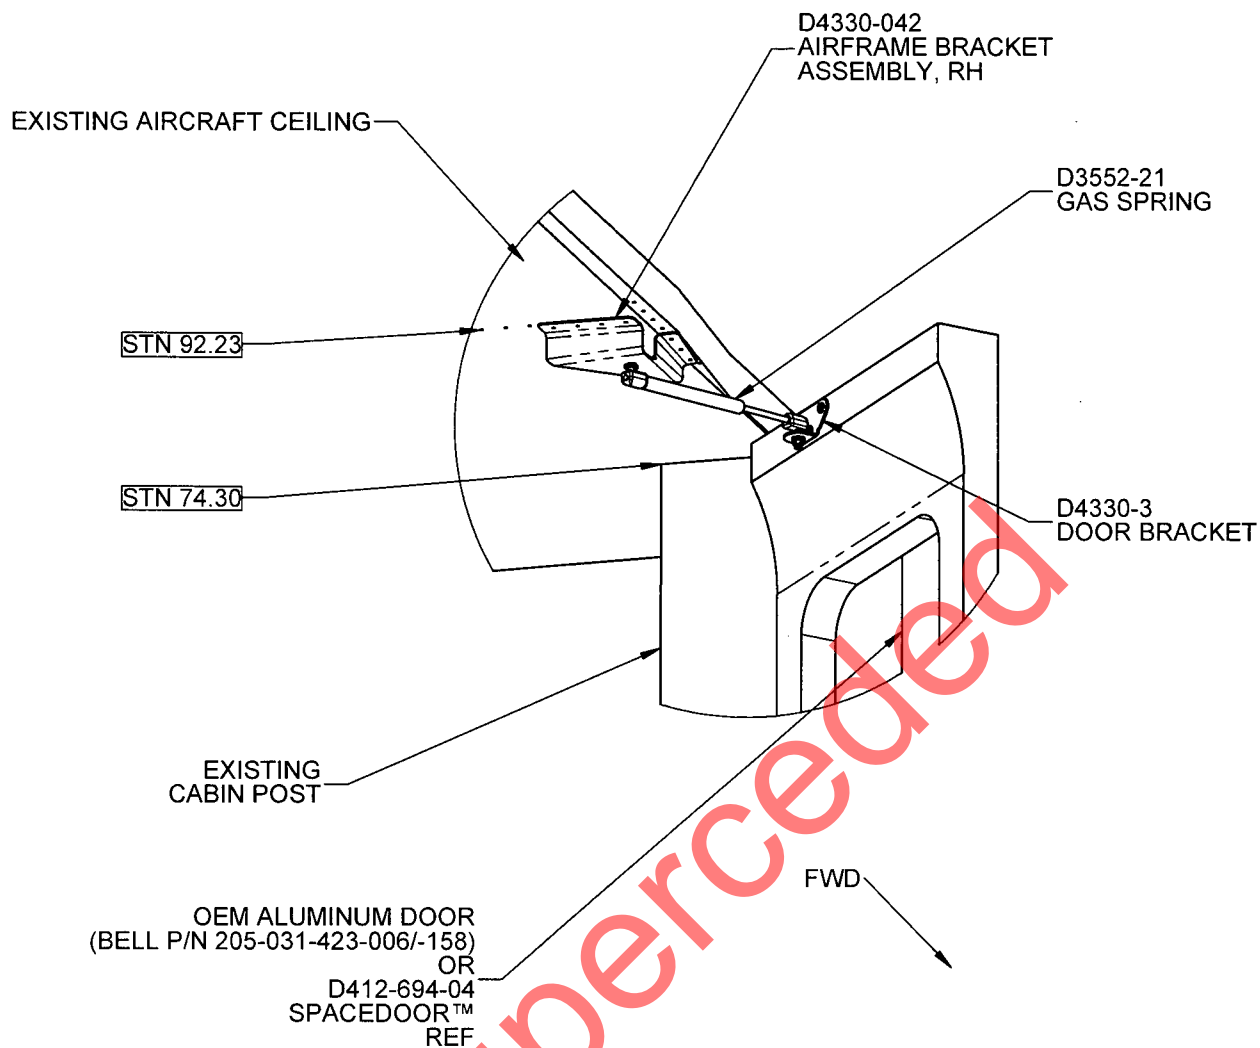

FIGURE 2: INSTALLATION DETAIL
2. Using Figures 2 and 3 and dimensions shown as reference, locate D4330-042 Airframe Bracket Assembly, RH on the intersection of the existing aircraft rivet lines. The angled part of D4330-042 Airframe Bracket Assembly, RH is required to pick up on a minimum of 3 rivets. The bracket may be hand formed as necessary to improve fit with the contoured ceiling.
14. Install D3552-21 Gas Spring onto the D3622-1 Ball Studs per Figure 2.
15. Install D3552-21 Gas Spring onto the D3622-1 Ball Studs per Figure 2.